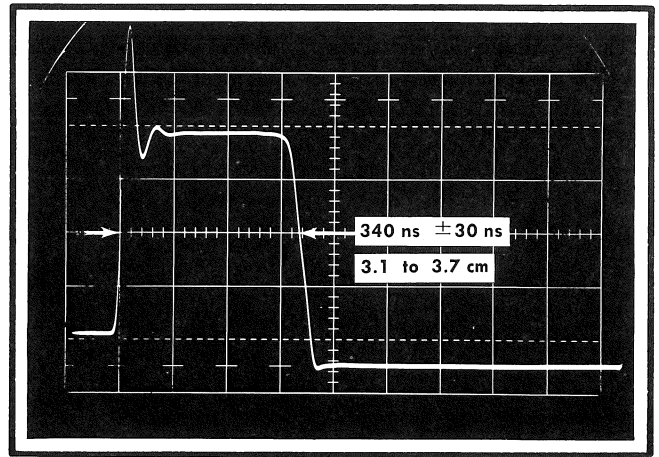

Fig. 7-14. Typical CRT display for measurement of Memory Gate Width.
f. Check the waveform at the 50% amplitude points for a pulse width of 340 ns ± 30 ns (3.1 to 3.7 cm). See Fig. 7-14.